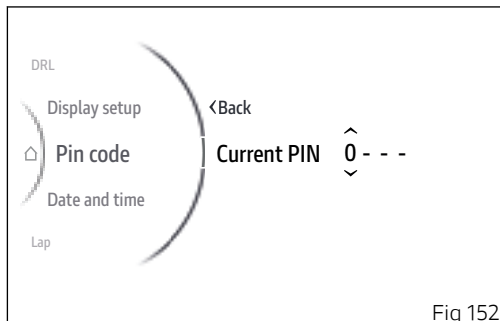

Fig 152
- The display shows "Current PIN", press ENTER (3) to proceed with entry (Fig 152).